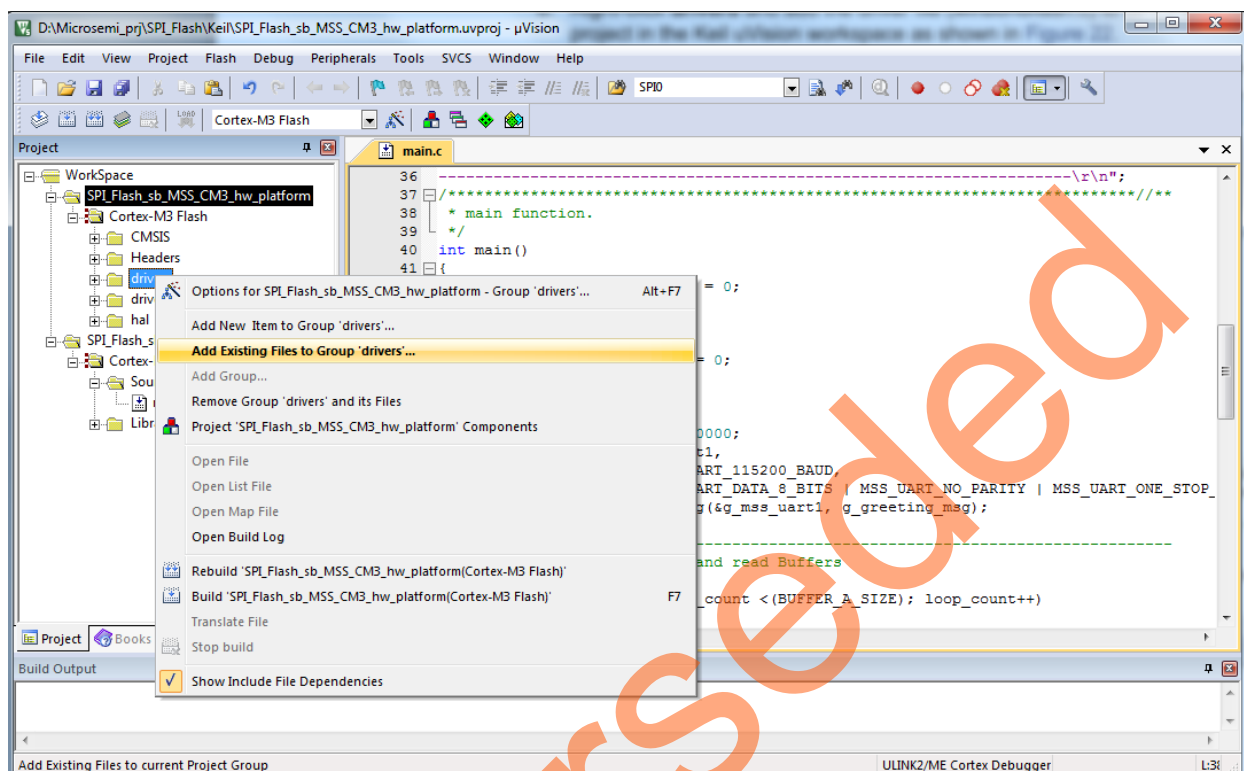

Figure 21 • uVision Workspace Window - Add winbondflash SPI Driver Files
7. Right-click and add the driver file (winbondflash.c) to SPI_Flash_sb_MSS_CM3_hw_platform project in the Keil uVision workspace as shown in Figure 21.